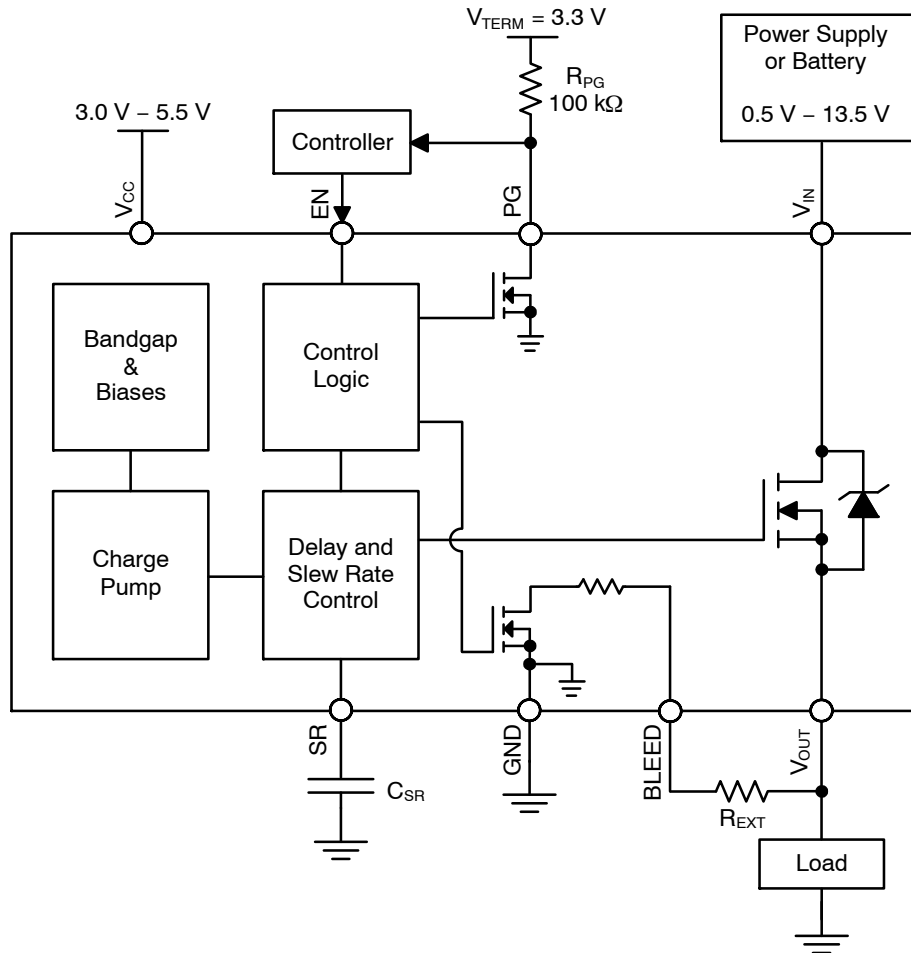
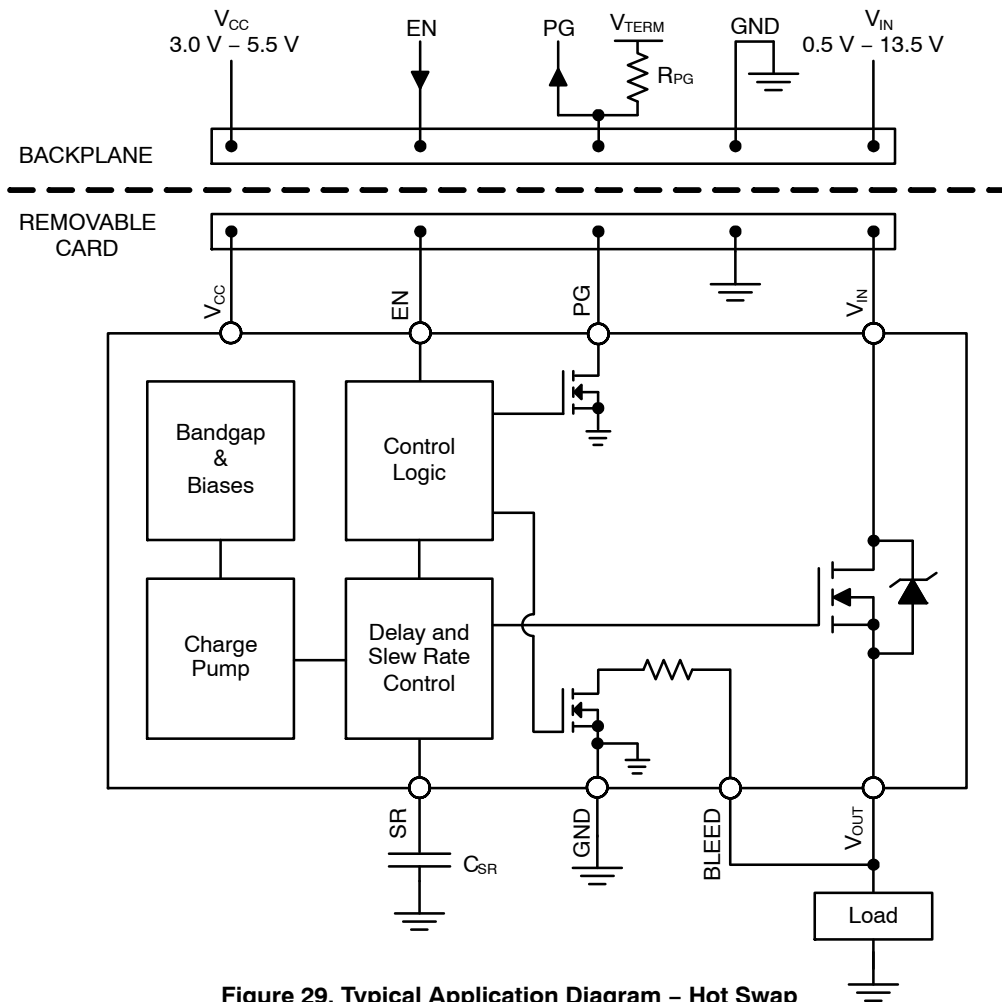

Figure 28. Typical Application Diagram – Load Switch
Figure 29. Typical Application Diagram – Hot Swap
It is required that the BLEED pin be connected to  $V_{OUT}$  either directly (as shown in Figure 29) or through an external resistor,  $R_{EXT}$  (as shown in Figure 28).  $R_{EXT}$  should not exceed 100 M $\Omega$  and can be used to increase the total bleed resistance and decrease the load bleed rate.
The NCP45541 devices have a power good output (PG) that can be used to indicate when the gate of the MOSFET is fully charged. The PG pin is an active-high, open-drain output that requires an external pull up resistor,  $R_{PG}$ , greater than or equal to 1 k $\Omega$  to an external voltage source,  $V_{TERM}$ , compatible with input levels of other devices connected to this pin (as shown in Figures 28 and 29).
The slew rate can be decreased with an external capacitor added between the SR pin and ground (as shown in Figures 28 and 29). With an external capacitor present, the slew rate can be determined by the following equation: